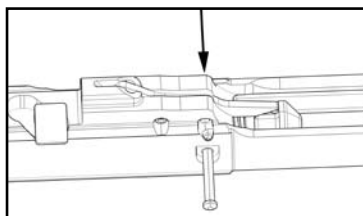

Fig. 38 – Remove the Firing Pin and Firing Pin Spring
c. Insert the small tip of the disassembly tool into the right hand side of the firing pin retaining pin and drift the firing pin retaining pin from right to left until the firing pin retaining pin reaches its limit of lateral travel (Fig. 38)